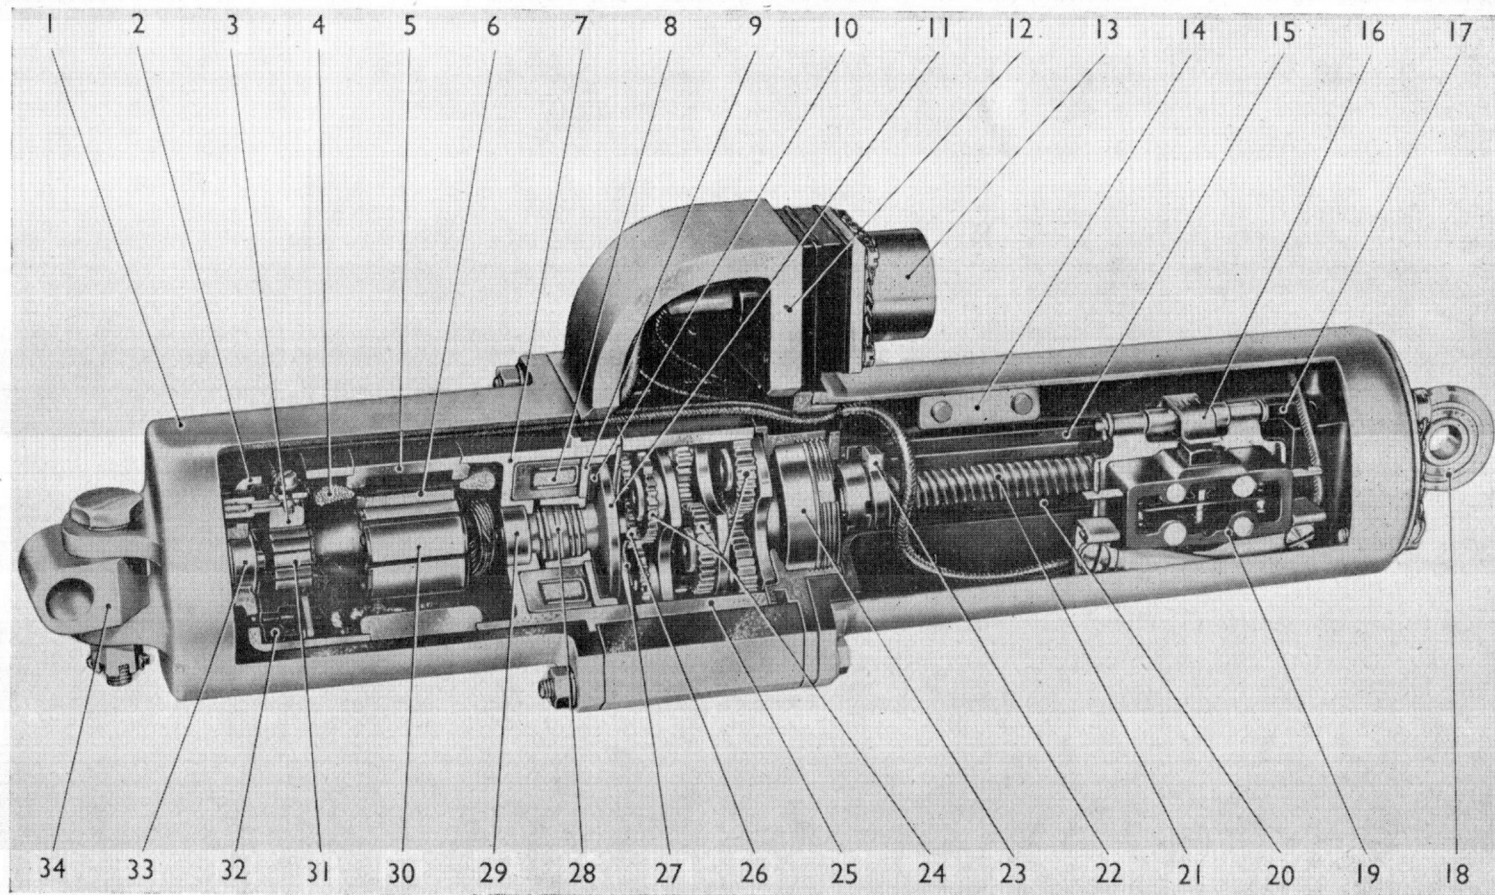

Fig. 2. Sectional view of actuator
KEY TO FIG. 2
3. The motor (*fig. 2*) is a reversible split-field series type with an integral electromagnetic brake. The motor is located by a spigot in the gear housing; the motor pinion is part of an assembly and is pin-driven by the armature shaft. The armature is dynamically balanced to eliminate vibration.
4. The gearbox assembly (*fig. 2*) comprises the main housing (enclosing the toothed annulus) with the three-stage epicyclic gear train. The lead screw is extended into the gearbox, where it is supported in a bearing. One stage of the gearing is supported on a carrier integral with the lead screw extension; the other two gear stage carriers, for support and bearing purposes, are freely located on the lead screw extension, where they are retained by a circlip.